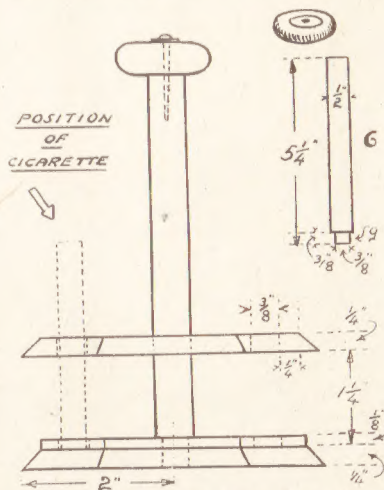

Fig. 3—Section and detail of spindle
Now take a $\frac{1}{2}$ in. square opening out of the centre of (B) and another of $\frac{3}{8}$ in. sides from the middle of the base. These are for the handle (G) (Fig. 3). It would be nice if this latter could be turned on a lathe at the top to some pleasing shape, but in lieu of this finish, a square-section length of wood with a 'button' on top